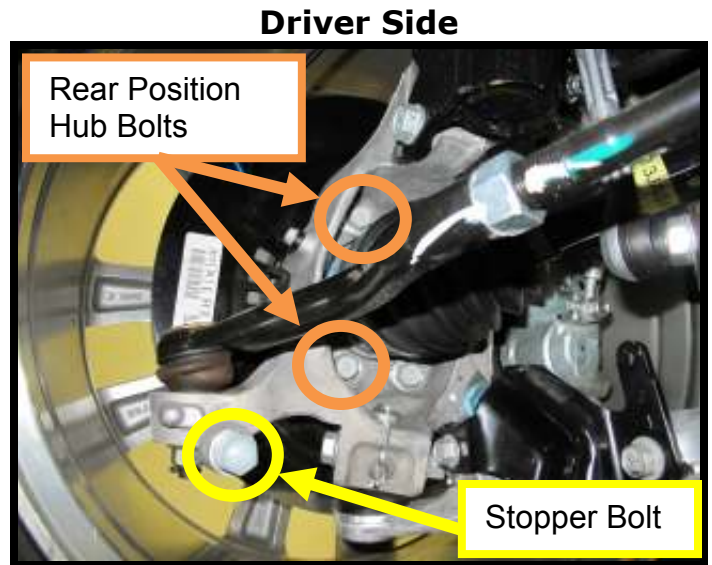

Figure 3
6. On the driver side knuckle, use a torque wrench to torque the following bolts (Figure 3):